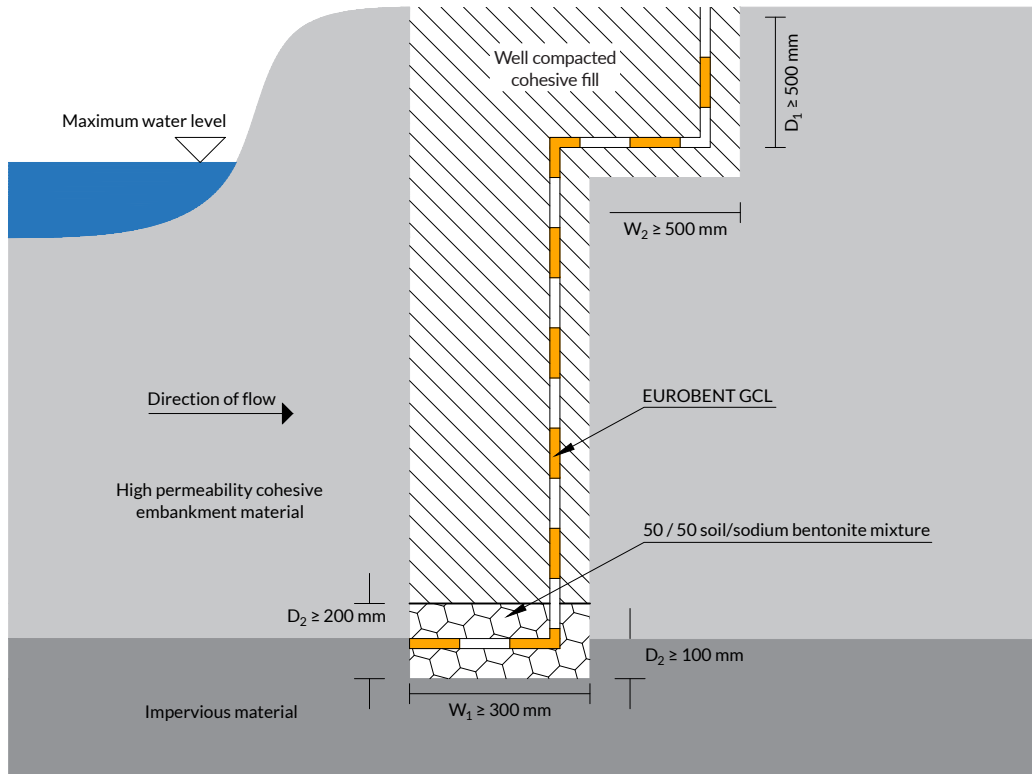

Fig 2.
- Cutoff trenches using EUROBENT GCL in cohesive soils are typically constructed as shown in Figure 2;